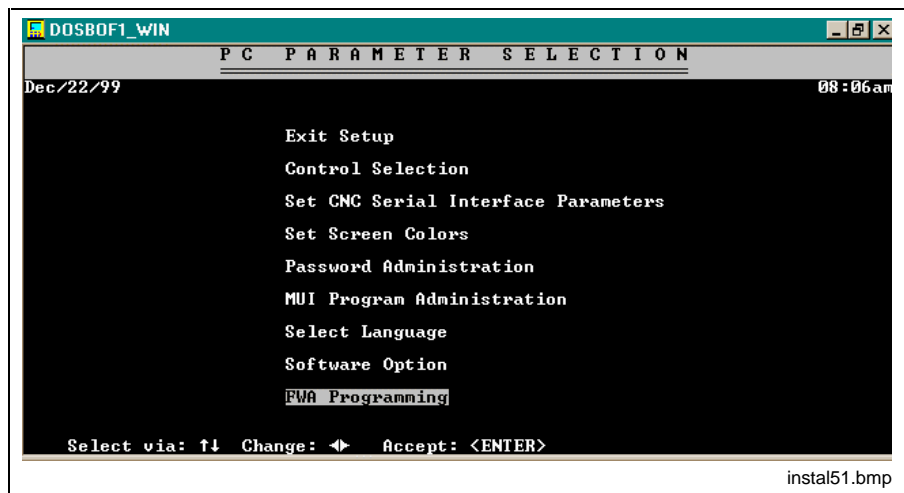

Figure 5-6: Firmware Programming
- Figure 5-6: Firmware Programming 5-5